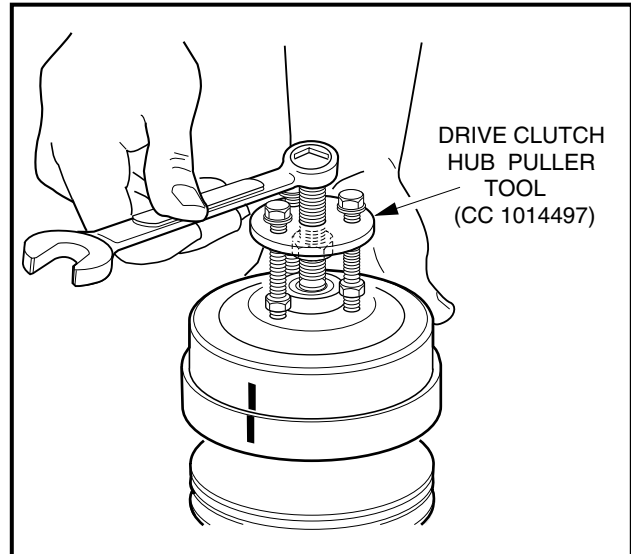

Figure 17-6 Remove Clutch Drive Hub
- 2.2. Thread the center bolt of the Drive Clutch Hub Puller (CC 1014497) into clutch until the stop nut touches the clutch hub or the bolt bottoms out, then back the bolt out one-half turn (**Figure 17-6, Page 17-7**).
- 2.3. Thread the three small bolts of the puller into the puller attachment holes in the clutch. Tighten bolts evenly, making sure the face of the puller plate is parallel to the clutch face (**Figure 17-6, Page 17-7**).